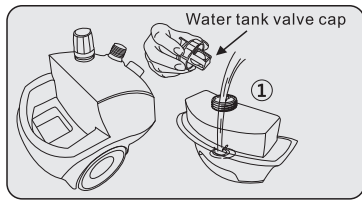

FIGURE 10
2. Remove the water tank, turn it upside down, and unfasten the water tank valve cap (see figure 10). Fill the water tank with cool water, and fasten the valve cap. Do not use hot water!